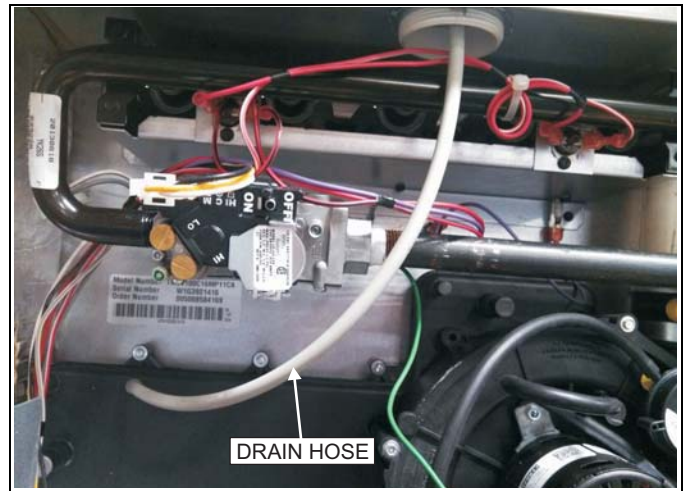

FIGURE 2: Upflow Configuration
6. Attach the other end to the port identified on the condensate pan. The hose may need to be cut to avoid sagging and drooping. See Figure 2.